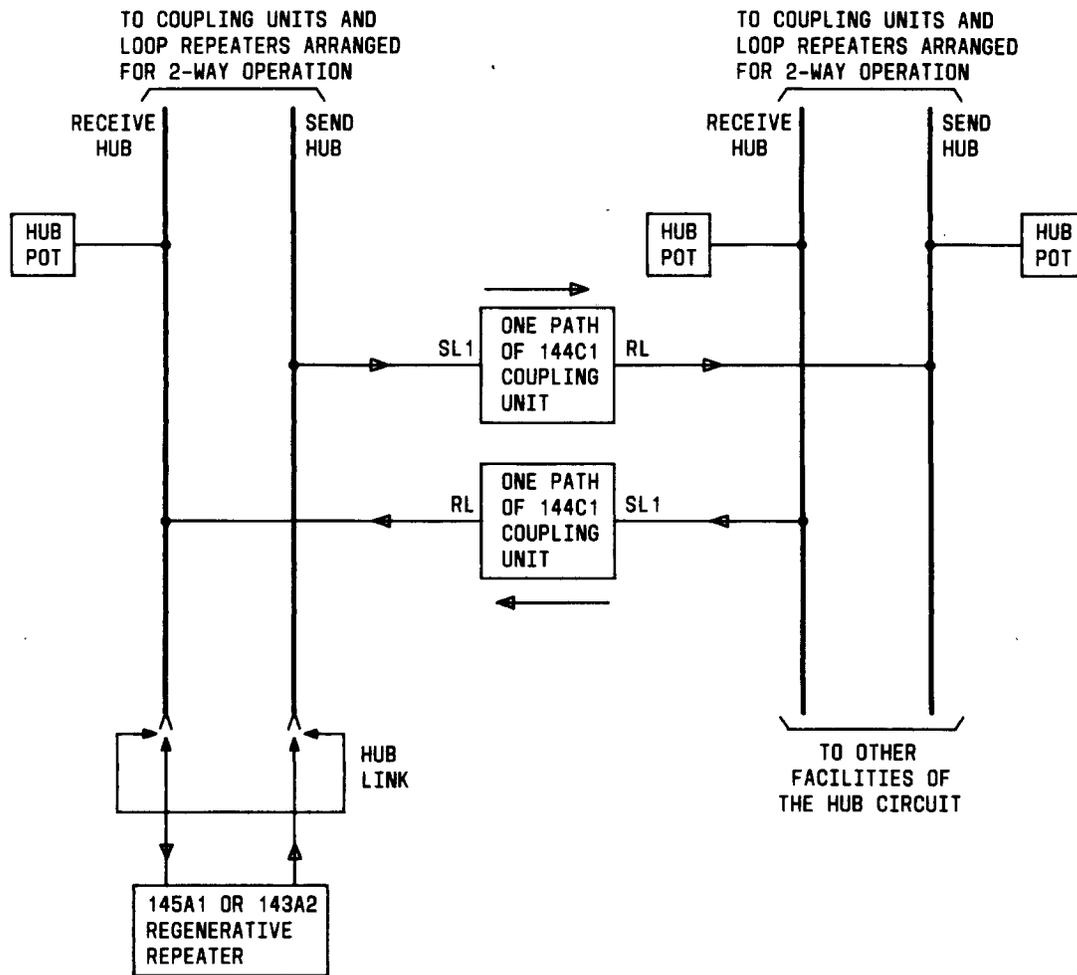

Fig. 3—Interconnection of Two-Way Hub Circuits
**3.03** Figure 3 shows the 144C1 coupling unit used to connect from the send hub of a main concentration of half-duplex legs to the send hub of a second concentration of half-duplex legs. In this case, no connection is made between the receive and send hubs of the second concentration group. A half-duplex repeater must be used to connect the receive hub of the second concentration group to the receive hub of the first concentration group. A regenerative repeater used at the first concentration group then regenerates signals to and from all legs on both concentration groups.